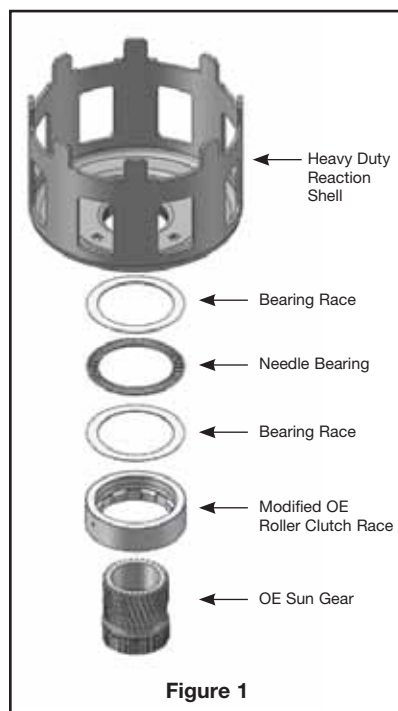

Figure 1
- Install Sonnax bearing races and needle bearing assembly (**Figure 1**).